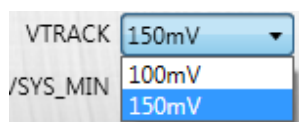

Figure 14: V_{TRACK} Setting
12. Set the voltage variation between SYS regulation voltage and V_{SYS_MIN} (see Figure 14). Its options are 100mV or 150mV, and the default value is 150mV.